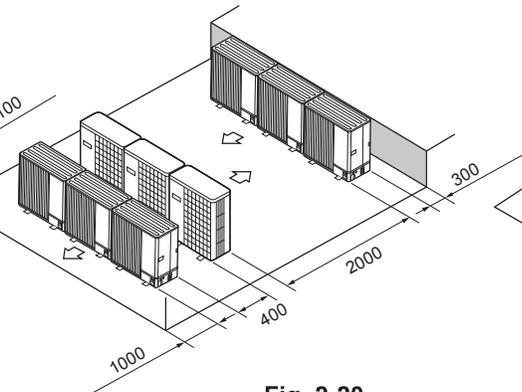

Fig. 2-20
- (6) Multiple parallel unit arrangement (Fig. 2-20)